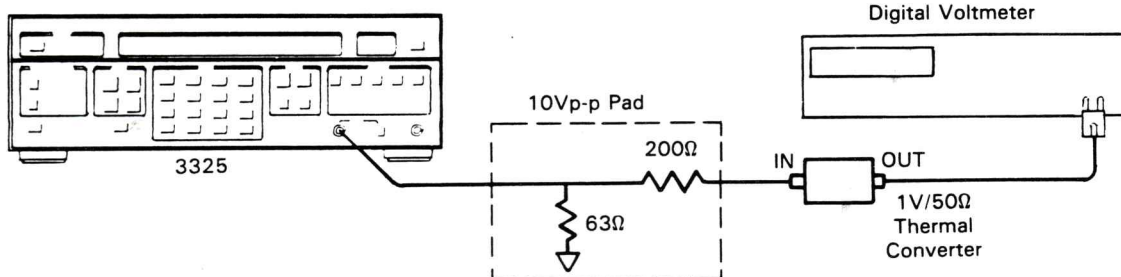

Figure 5-2a. Amplitude Flatness Adjustment (10Vp-p Pad).
b. Connect the 3325 signal output (through the 10Vp-p pad and thermal converter) to the digital voltmeter (see Figure 5-2a).